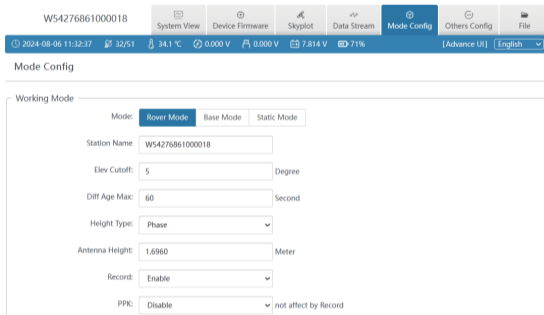

Figure 2.5-1
① **Working mode:** You can select Rover Mode/ Base Mode/Static Mode, and select the Elev Cutoff at the same time;
1. **Rover Mode:** the following parameters (Station Name, Elev Cutoff, Diff Age Max, Height Type, Antenna Height, Record, PPK) can be configured, as shown in Figure 2.5-1: